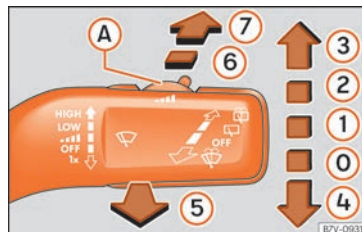

**Fig. 120** Operating the windscreen wiper and rear wiper.
| 1 |  | Wiper intervals. Use control » Fig. 120 (A) to set the interval (vehicles without rain sensor), or the sensitivity of the rain sensor.                   |